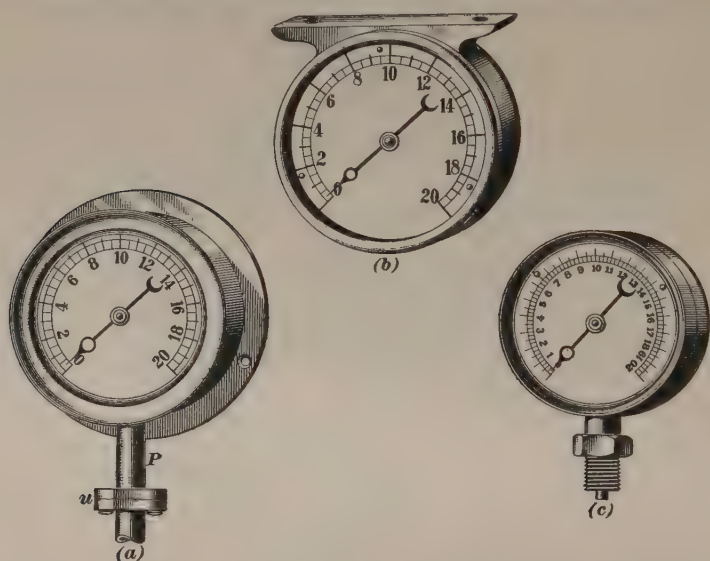

FIG. 8
8. The various pressure gauges used are shown in Fig. 8. (a) is the one shown in Fig. 1; (b) is similar, except for the method of attachment; (c) is the kind used by the car filler. In gauge (a), the type shown in Fig. 1 and also in Fig. 18, the pipe *P* leads to the T-flange union *u* in the piping between the filling valve and holder. The construction of the gauges is the same in each case. They are graduated to atmospheres instead of pounds, as in the case of steam gauges; they can be had, however, graduated to